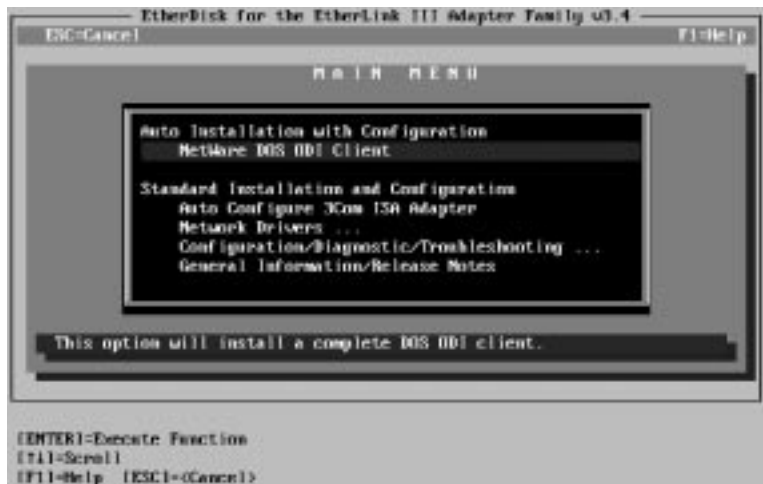

Figure 3-2. Main Menu
6. **When the main menu screen shown in Figure 3-2 appears, select Configuration/Diagnostic/Troubleshooting and press [Enter].**